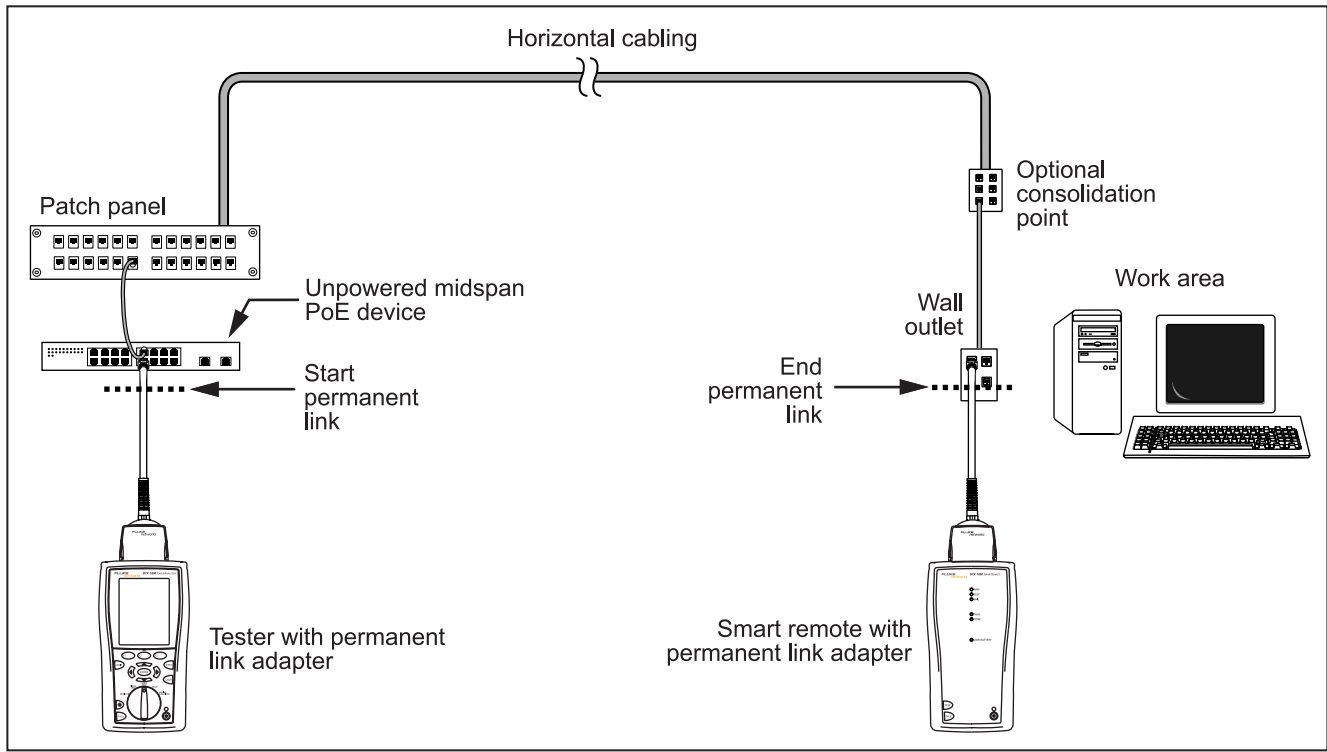
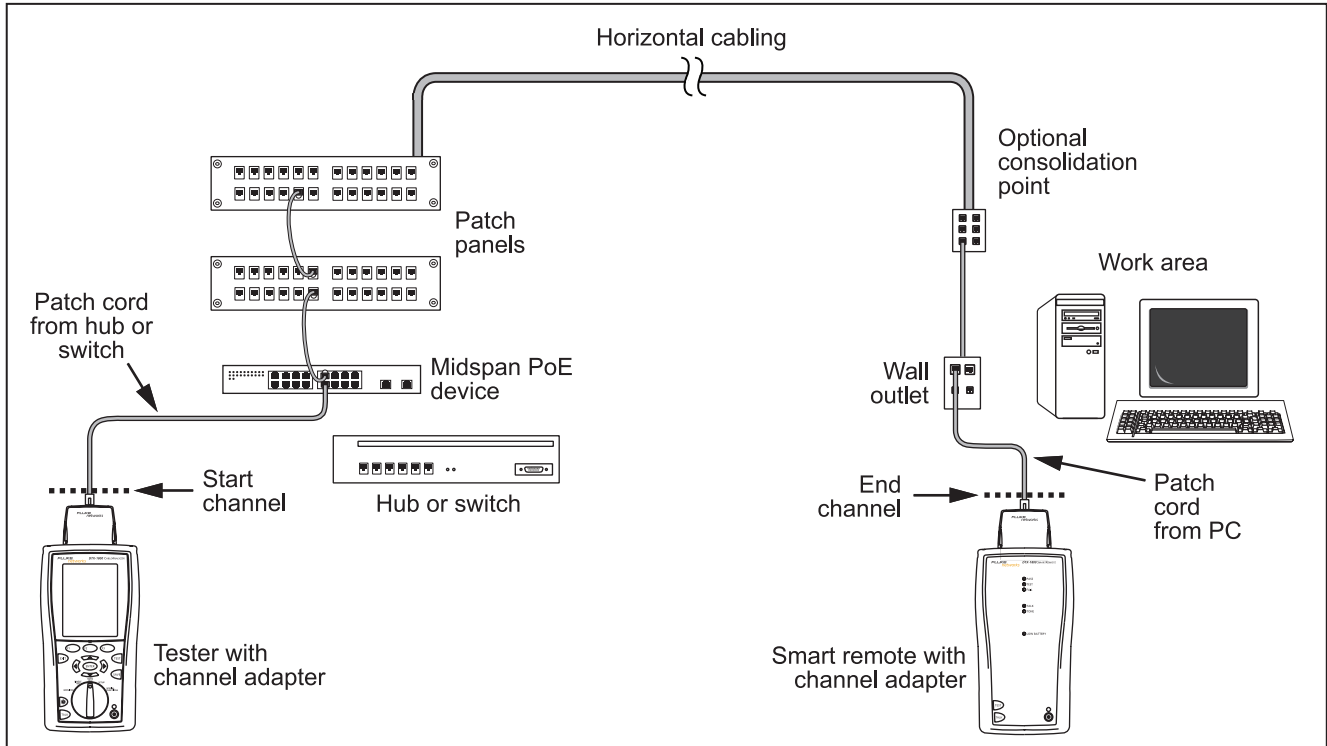

Figure 4-1. Testing a Permanent Link Through a PoE Device
Figure 4-2. Testing a Channel Through a PoE Device
- 2 Connect to the cabling as shown in Figure 4-1 for a permanent link or Figure 4-2 for a channel